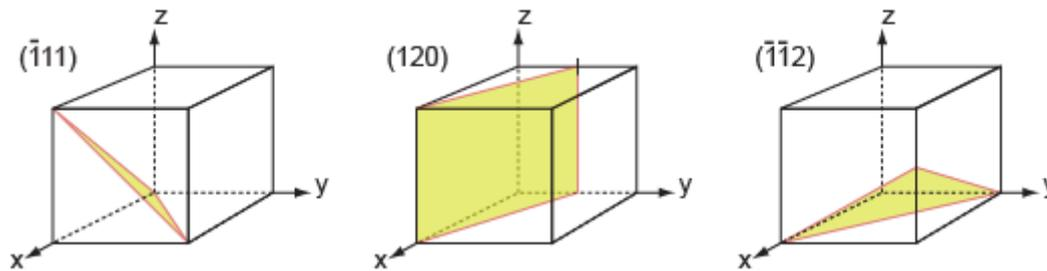

Figure C31. The planes of exercise E20
**E20.** Figure C31 shows the planes.